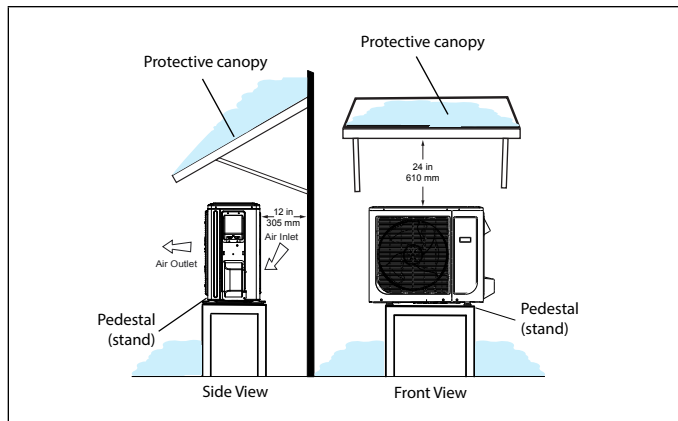
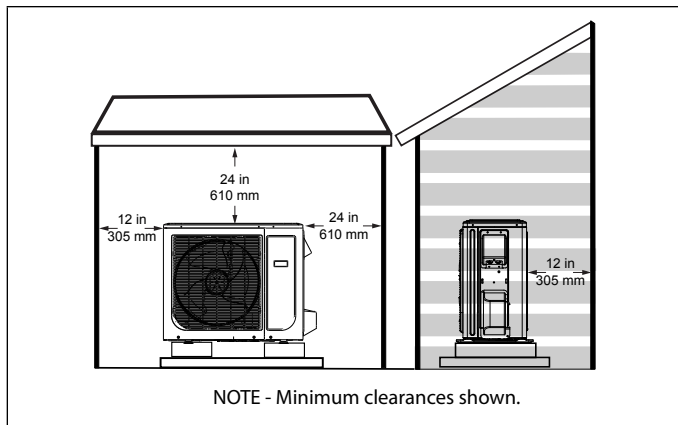

Figure 15. Outdoor Unit on Pedestal (Stand) and Protective Canopy
Figure 20. Dog House-Style Shelter
- If the outdoor unit is subjected to prolong exposure to direct sunlight with temperatures over 100°F (38°C) a canopy is recommended as illustrated in "Figure 15. Outdoor Unit on Pedestal (Stand) and Protective Canopy" or "Figure 20. Dog House-Style Shelter" on page 12.
- Place unit away from overhanging roof lines which would allow water or ice to drop on, or in front of, coil or into unit. Construct a canopy as illustrated in "Figure 15. Outdoor Unit on Pedestal (Stand) and Protective Canopy"
- Outdoor unit can be installed in a dog house style shelter as illustrated in “Figure 20. Dog House-Style Shelter”